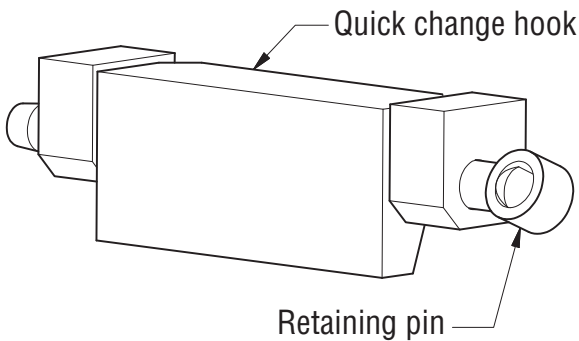

Figure 5-1, Quick Change Hook
2. Slightly raise the truck carriage to allow the removal of the bottom mounting hooks. Pull retaining pins and remove lower retaining hooks. (Figure 5-1)